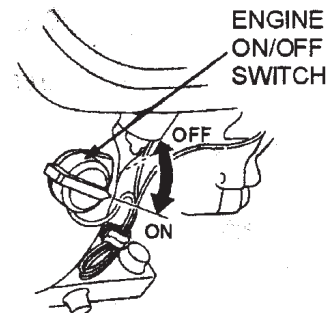

Figure 12. Engine ON/OFF Switch
5. Place the **engine ON/OFF switch** (Figure 12) in the "ON" position.